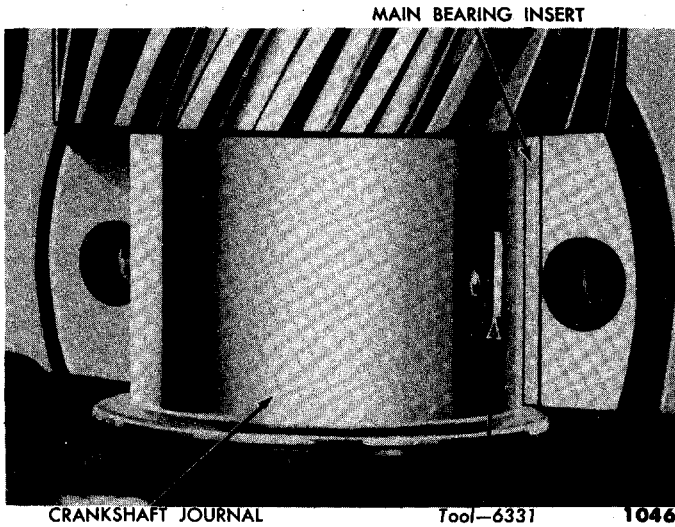

Fig. 57—Removing Main Bearing Insert
(1) **REPLACEMENT WITHOUT REMOVING CRANKSHAFT.** After the bearing cap has been removed, a special tool designed for removing the upper bearing insert may be inserted in the oil hole in the crankshaft as shown in fig. 56. Figure 57 shows the tool in position ready to bear against the insert. When the crankshaft is rotated in the direction opposite to engine rotation the tool will force out the bearing insert.